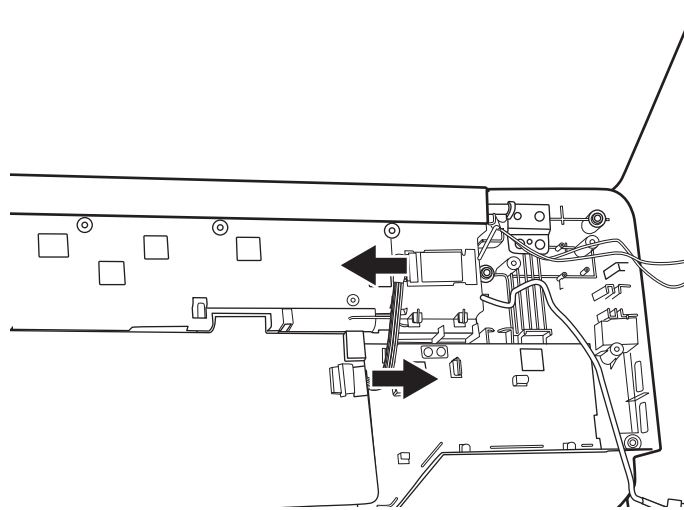

Figure 4.47 Removing the Bluetooth card
Remove the Bluetooth card according to the following procedures and Figure 4.47.
2. Press down the latch and push the Bluetooth card in the direction indicated in the figure 4.47 and slide the Bluetooth card out.